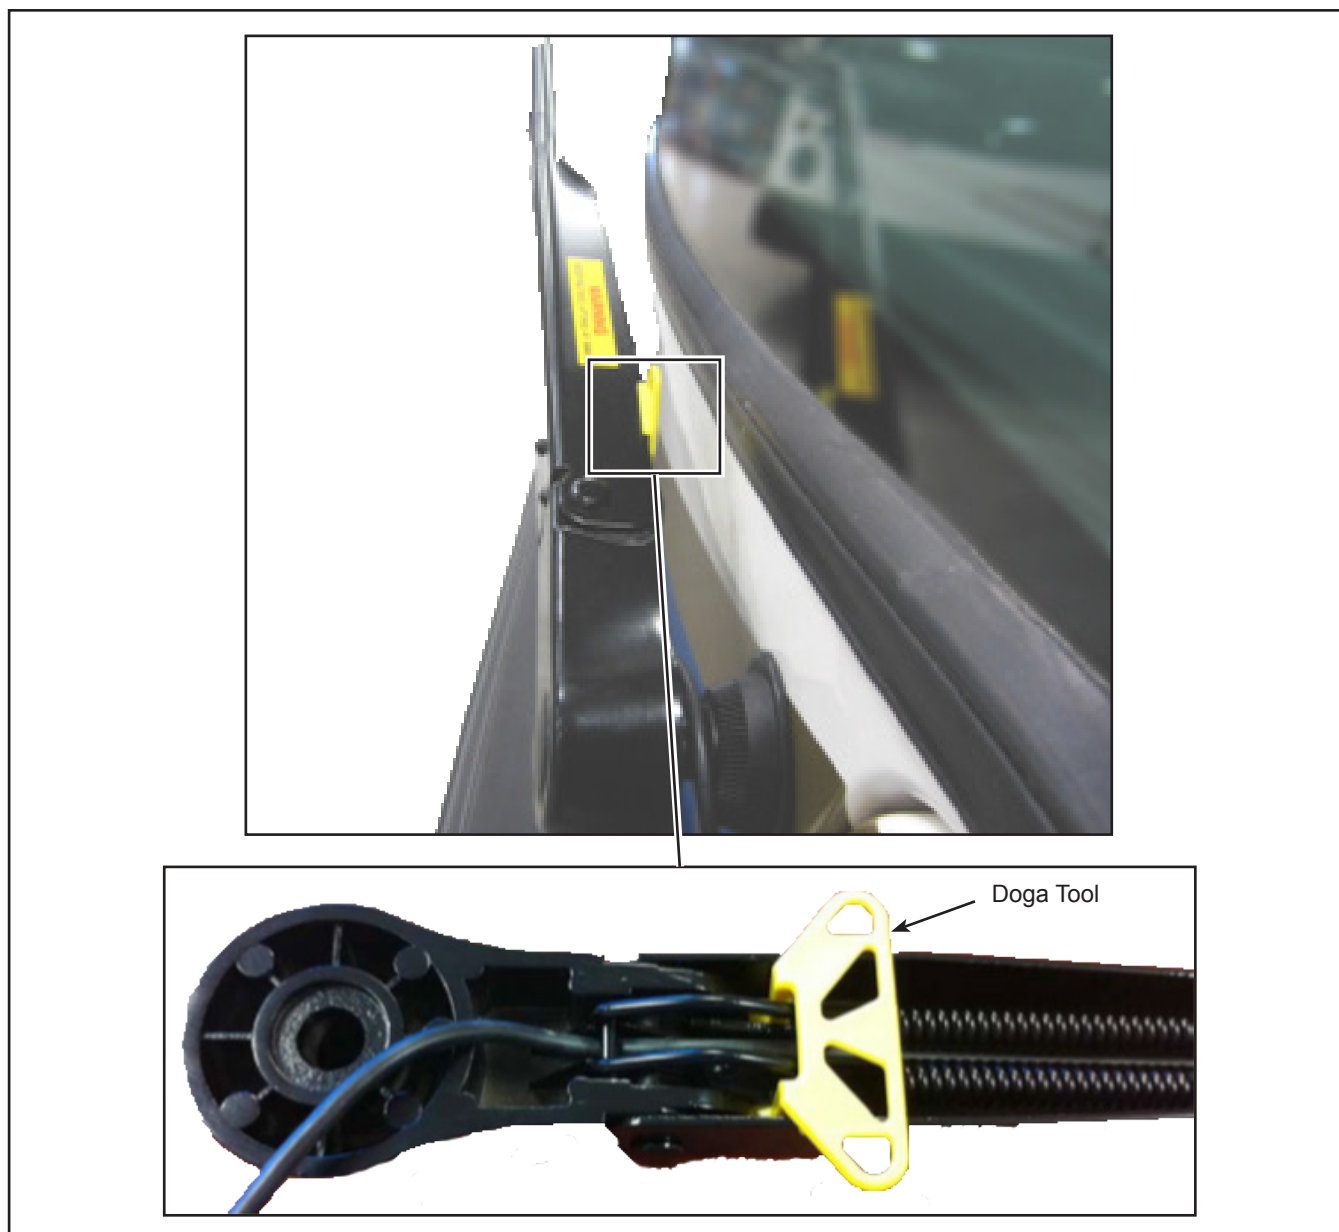

Figure 9 - Install the Doga Tool
1.27. Lift the curb side wiper arm and install the Doga tool (yellow) to keep the arm straight. See Figure 9.